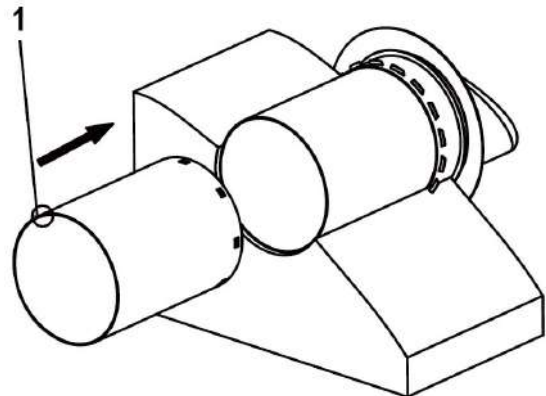

Fig.17
- Inserire il condotto interno in quello esterno (1 Fig. 17).
- Insert the internal duct into the external one (1 Fig. 17).
- Can install in advance the filter, the ceramic enthalpy heat exchanger, another filter and a bracket inside the internal duct (see item 8).